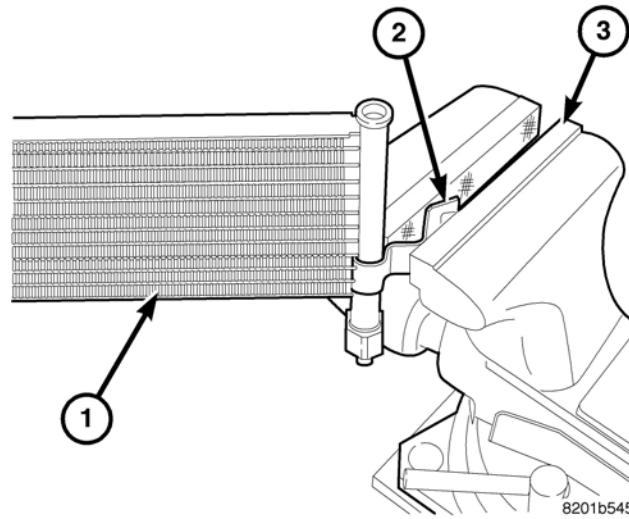
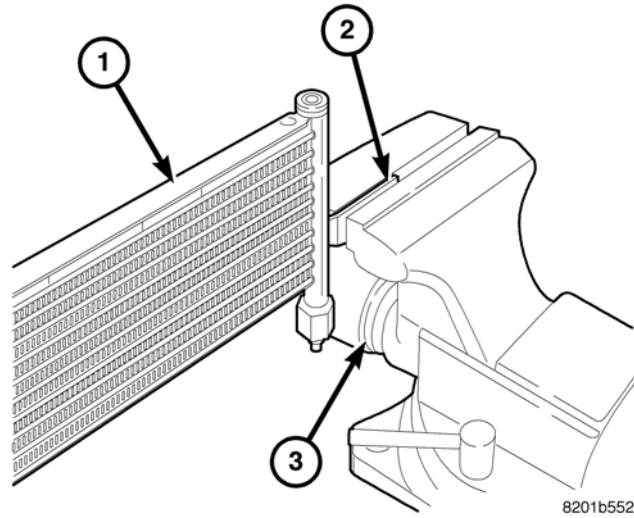

Fig. 1 STRAIGHTENING LEFT TRANSMISSION COOLER BRACKET
Fig. 2 STRAIGHTENING LEFT COOLER BRACKET
2. Remove the three (3) push pins that secure the upper radiator close out panel to the radiator support and remove the close out panel.
3. Remove the two (2) radiator top mounting bolts.
5. Place transmission cooler (p/n 05183566AA) left mounting tab/bracket into a vise and straighten the tab/bracket, (Fig. 1) and (Fig. 2).